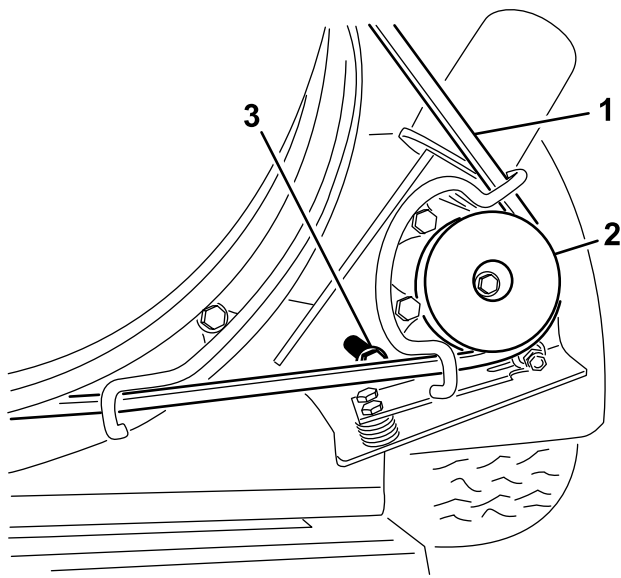

Figure 30
1. Loosen the bolts securing the pulley mounting bracket to the blower frame (Figure 30).